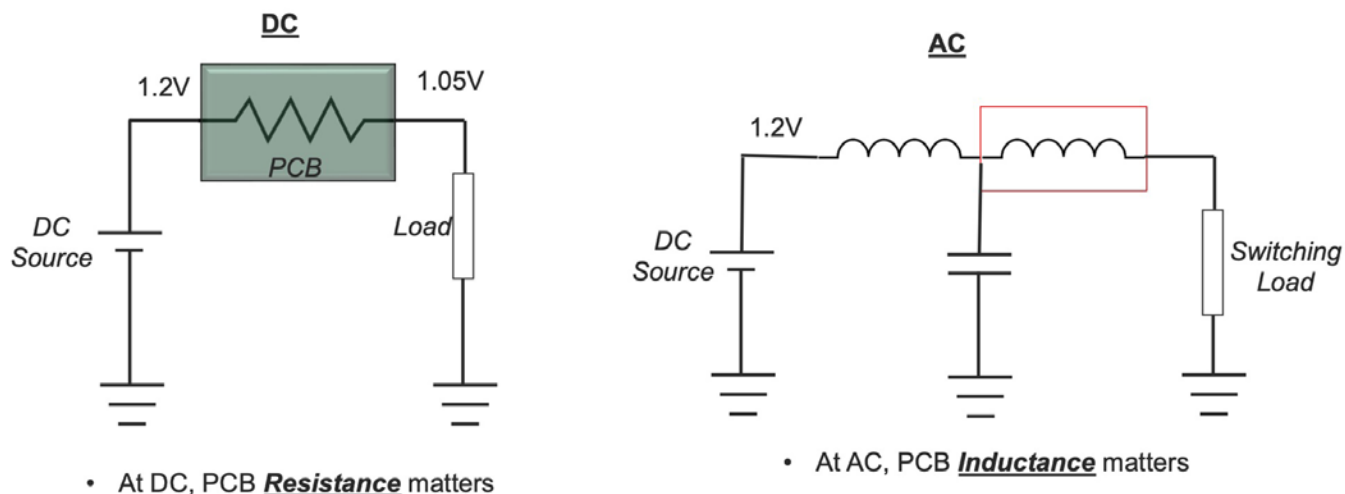

Figure 3: Sufficient and stable power for both DC and AC is required for components transmitting and receiving signals.
A key challenge for PCB designers is delivering power to the load. The correct power for both DC (magnitude) and AC (ripple) are crucial for transmit (TX) and receive (RX) signals (Figure 3).